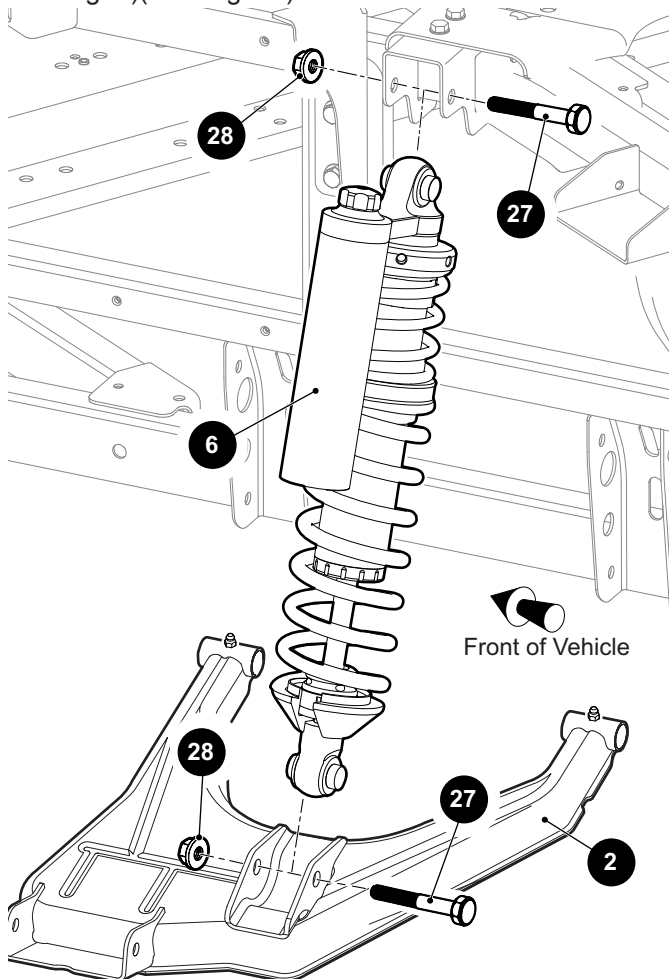

Fig. 9 Remove Strut
4. Remove the nut (28) and bolt (27) that secure the bottom of the strut assembly to the lower control arm (2)(Ref. Fig. 9).